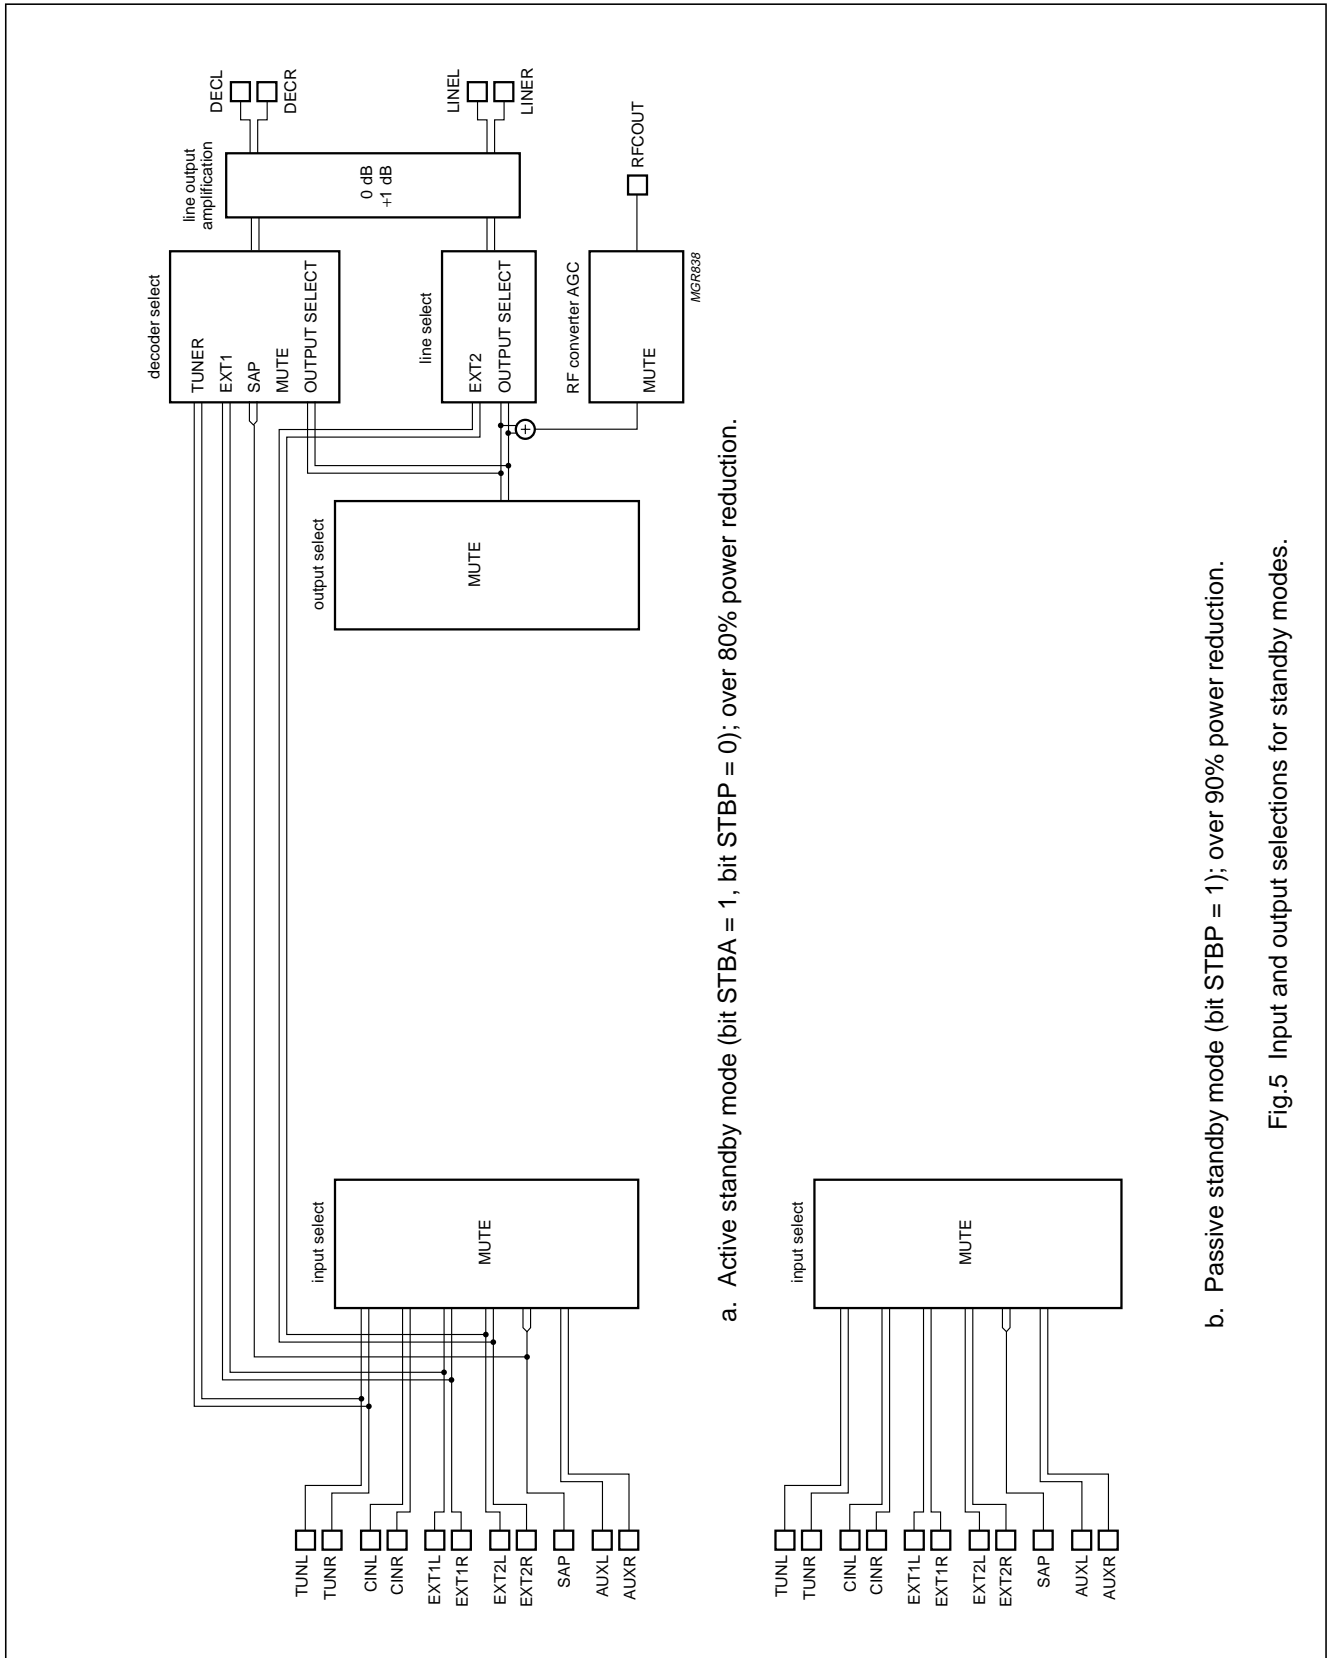

Fig.5 Input and output selections for standby modes.
- Standby mode: active or passive (see Fig.5).